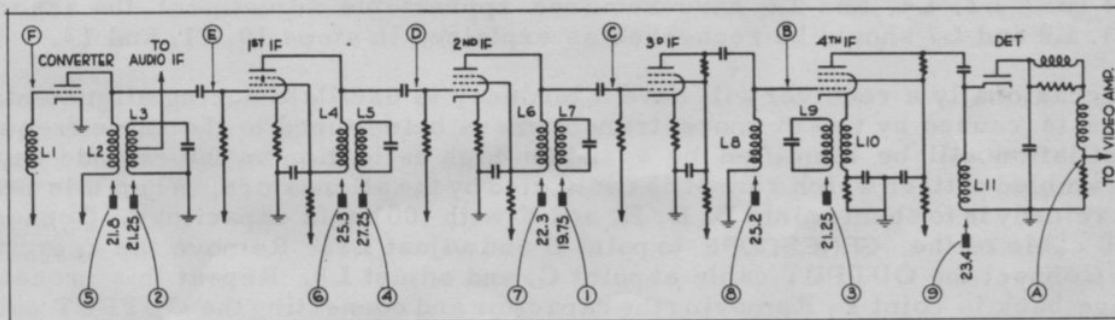

FIG. 7. TYPICAL TV PICTURE IF SYSTEM
7. Assume that the first adjustment specified in the manufacturer's literature is that of the adjacent channel video carrier trap at 19.75 mc. Follow instructions given in CALIBRATION PROCEDURES in this manual and determine the exact setting for 19.75 mc. Record the logging scale reading for future reference. It is good practice to determine the dial settings for all frequencies specified in the alignment instructions before proceeding with the adjustment; thus the alignment can be carried through without interruption. The frequencies specified in this example are; 19.75, 21.25, 21.8, 22.3, 23.4, 25.2, 25.3, and 27.25 mc. See figure 7. A new tendency among receiver manufacturers is to use an intermediate frequency centered around 45 mc.
8. Set the OUTPUT cable termination for 75 ohms by jumpering terminals 6-7-8-9-5 and terminals 2-3-4 (Open termination may be preferred. See Table 2 for instructions.) Connect the alligator clip on the end of the probe to point "F" of figure 7. Connect the ground lead of the probe to the receiver chassis. Connect the VERTICAL INPUT cable to point "A" of figure 7. Note that the ground lead and alligator clip may provide too much inductance for use at 45 mc. See the special instructions on page 27
10. Set the A. M. Generator logging scale to the point recorded for 19.75 mc. and adjust L7 (point "1" in figure 7) for minimum pattern height. If the pattern disappears completely, increase the attenuator setting until the exact minimum point can be observed on the cathode ray tube.